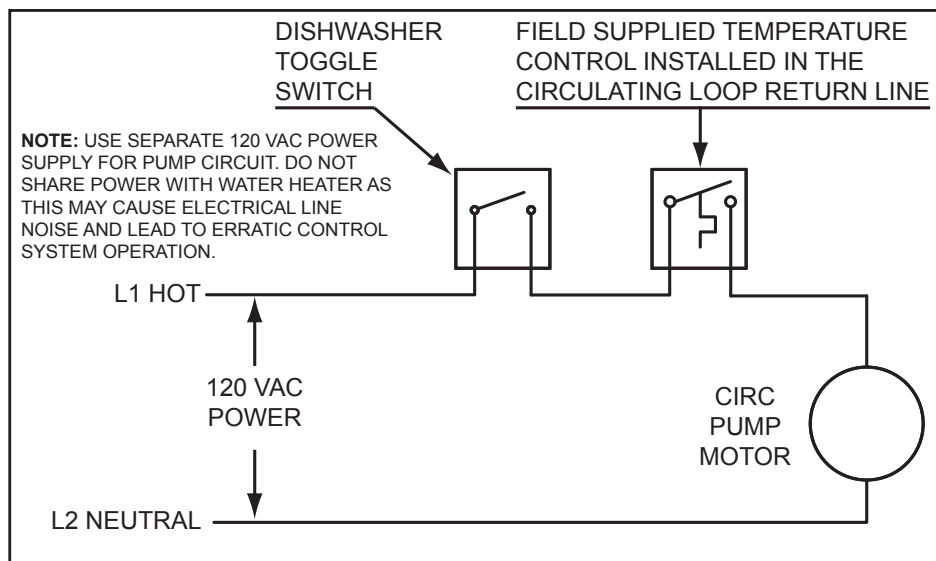

Figure 72. Circulating Pump Wiring Diagram - Dishwasher Loop Toggle Switch
7. If a pump is being installed in a recirculation loop between the water heater and a commercial dishwasher wire according to *Figure 72* (page 79).